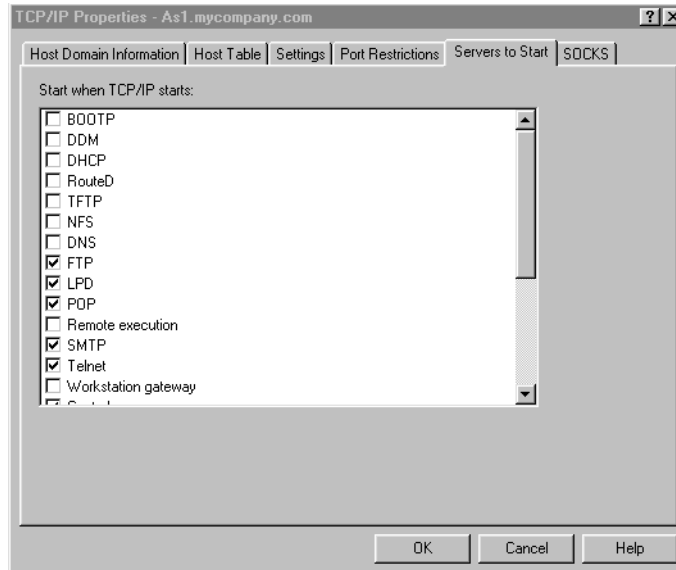

Figure 466. Servers to Start
7. Click the **Servers to Start** tab to select the currently installed servers that you want to start automatically when TCP/IP starts. Check the servers corresponding check box. If you have BOOTP, DHCP, and BOOTP/DHCP servers, only one of them can be checked. Figure 466 shows the Servers to Start dialog.